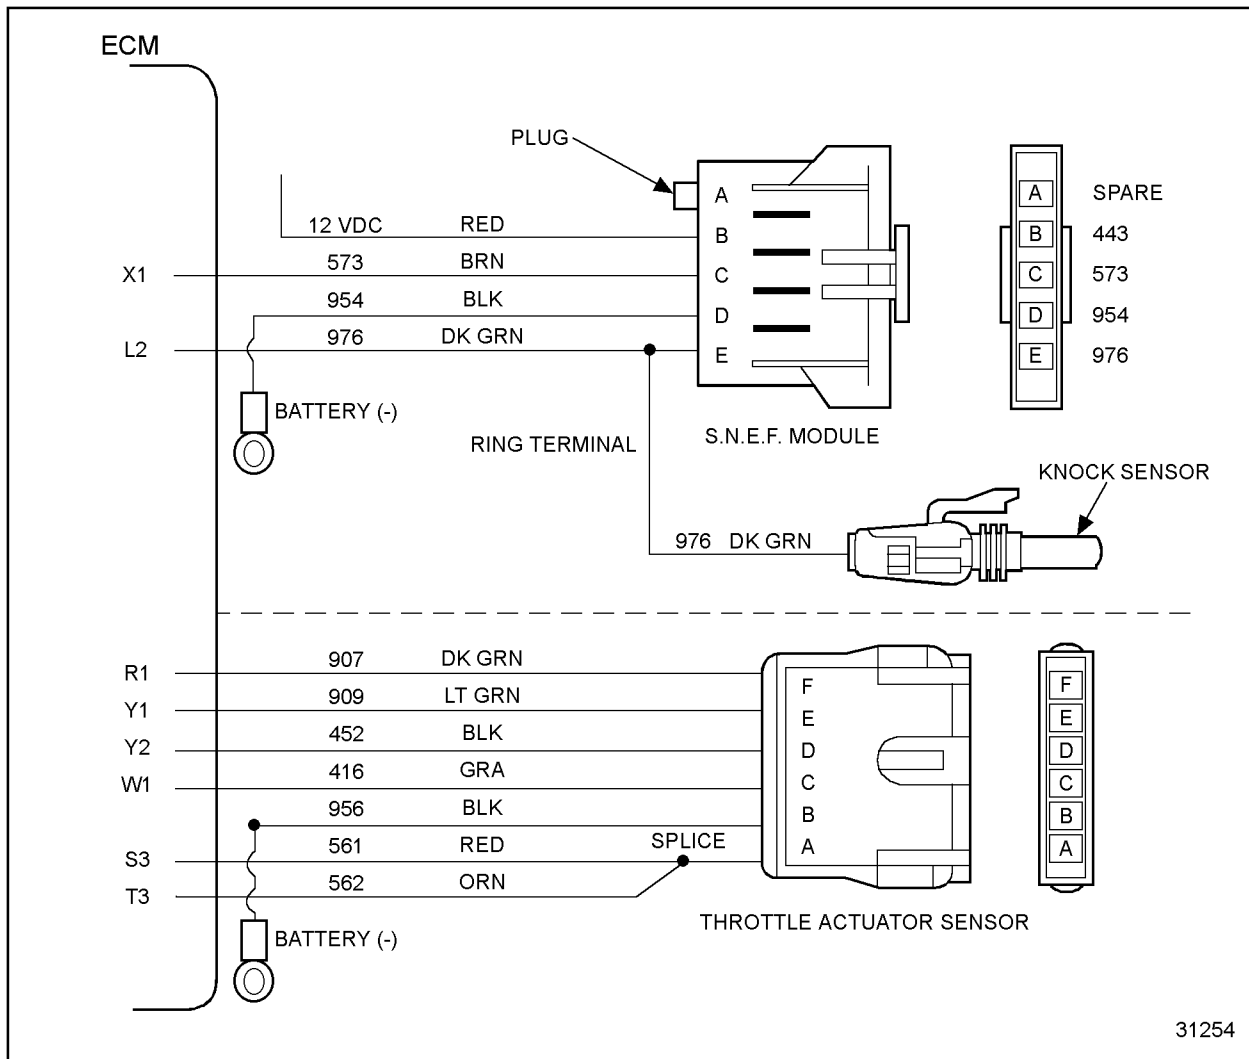

Figure 18-1 Gas Engine Sensor Harness
4. Measure resistance between Y2 (#452) and R1 (#907). See Figure 18-1.